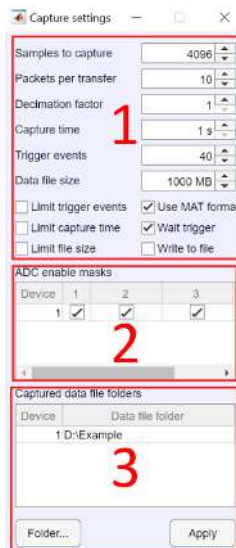

Figure 12: Capture Window
The Capture Window (Figure 12) has three sections: the capture settings (1), the enable ADC setting (2), and the save directory (3).